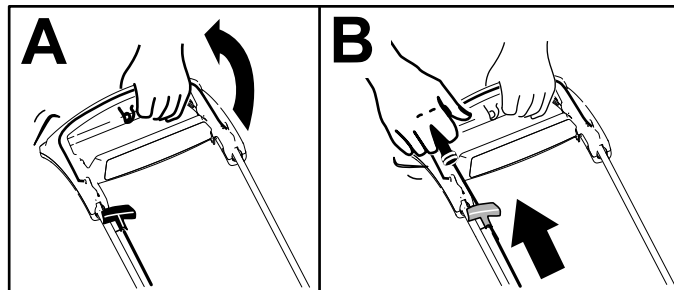

Figure 15
1. Hold the blade-control bar against the handle (A of Figure 15).
2. Pull the recoil-start handle (B of Figure 15).